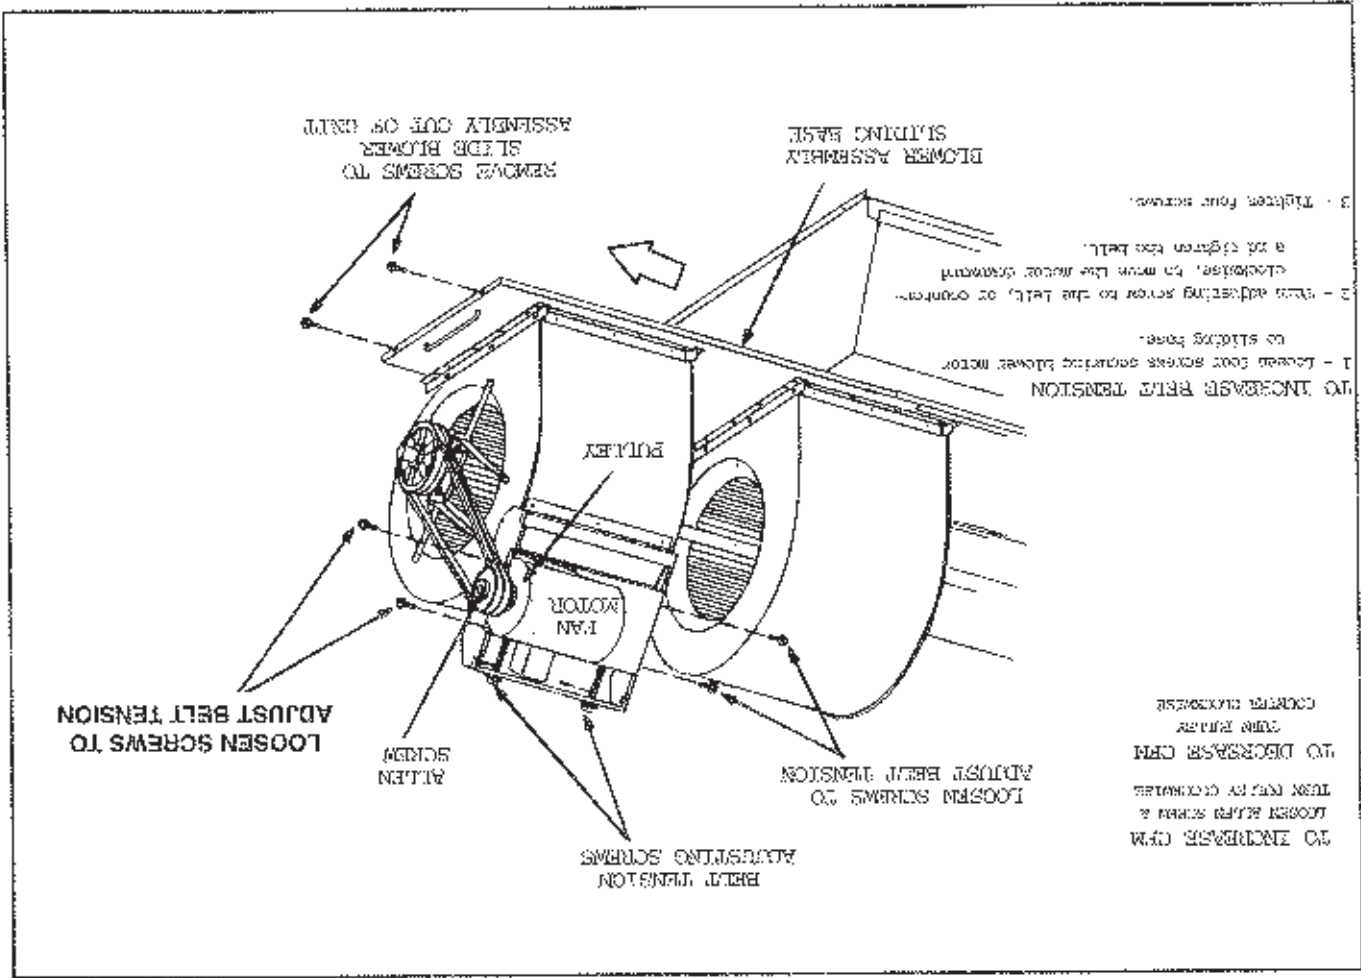

FIGURE 11
2 - Install thermostat assembly in accordance with instructions provided with thermostat. See figure 11 for field wiring electronic and electro-mechanical thermostats. If using other temperature control
- 2 - Remove screws on either side of fan assembly sliding base. See Figure 11.
- 5 - The fan RPM can be adjusted at the motor pulley. Loosen Allen screw and turn adjustable pulley clockwise to increase airflow, Turn counterclockwise to decrease airflow. See Figure 11.
1 - Loosen four screws securing fan motor to sliding base. See figures 11 or 13.